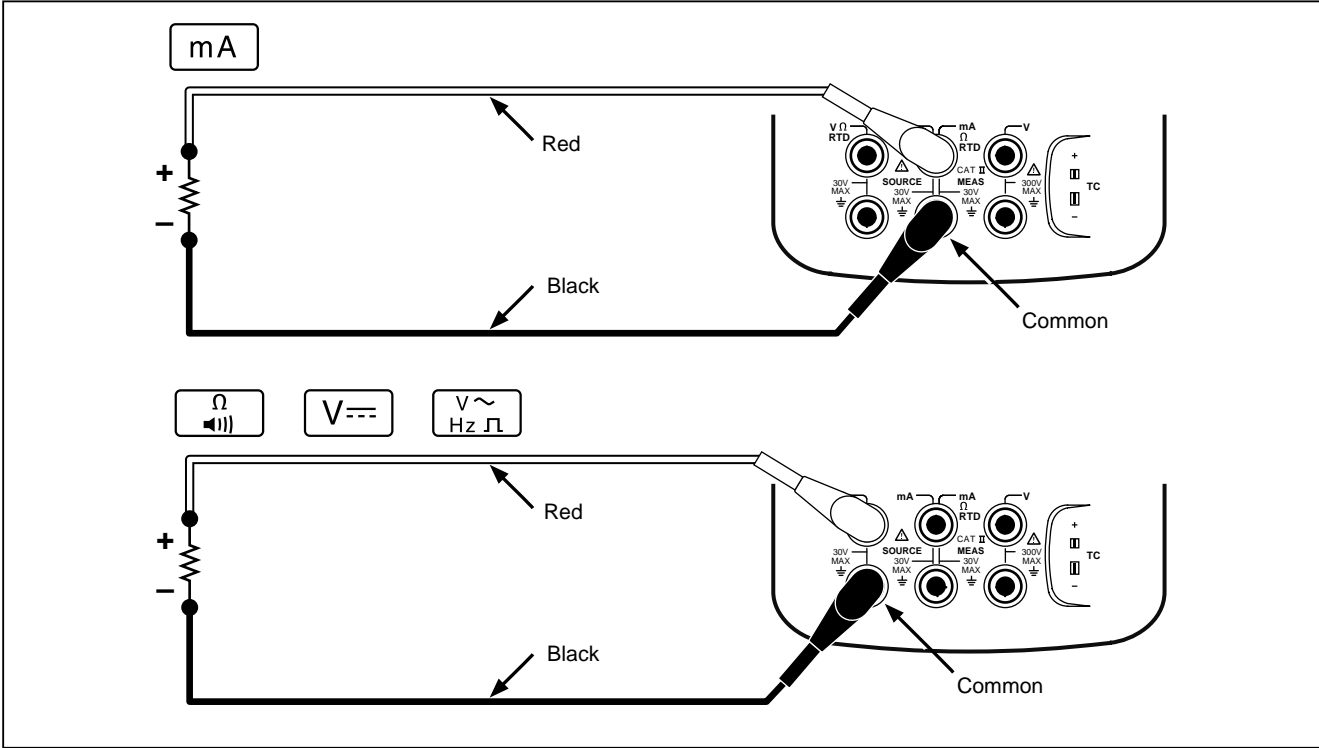

Figure 16. Electrical Sourcing Connections
1. Connect the test leads as shown in Figure 16, depending on the source function.